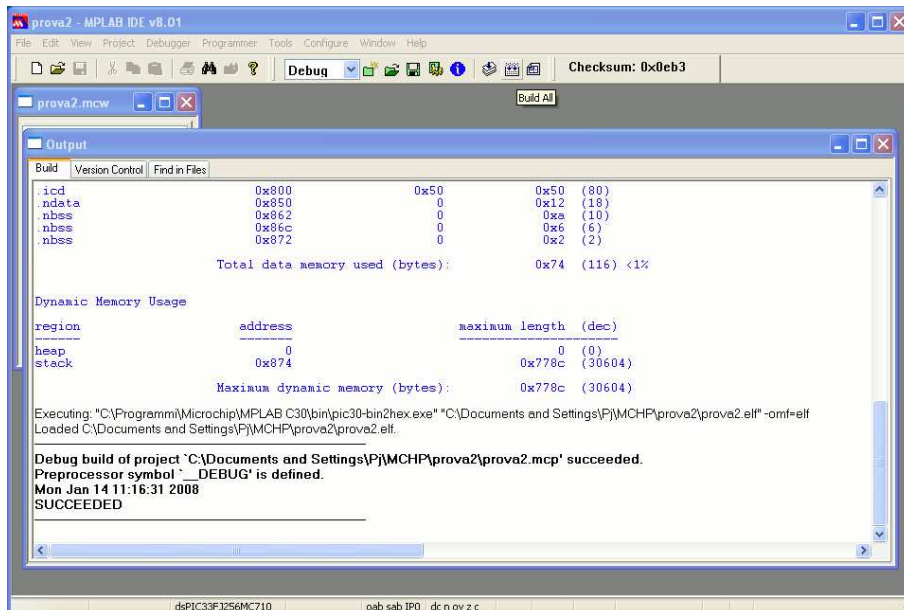

Figure 3.7: The result of the application compilation on MPLAB IDE.
6. Add your application files, and compile it as usually done with MPLAB IDE. The result will be similar to what showed in Figure 3.7.